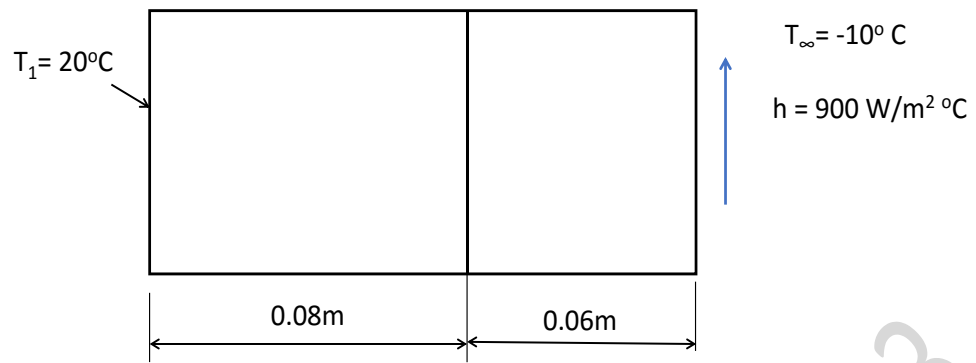

Fig. 7a
- 7 a) For the composite wall shown in Fig. 7a, determine the temperature distribution. **10**